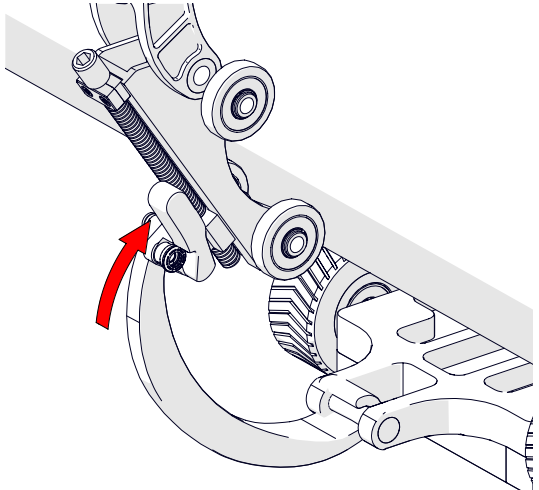

Fig. 93 - Press down to tighten chain system
12. Push the buckle lever down, locking the chain system in place (Fig. 93).